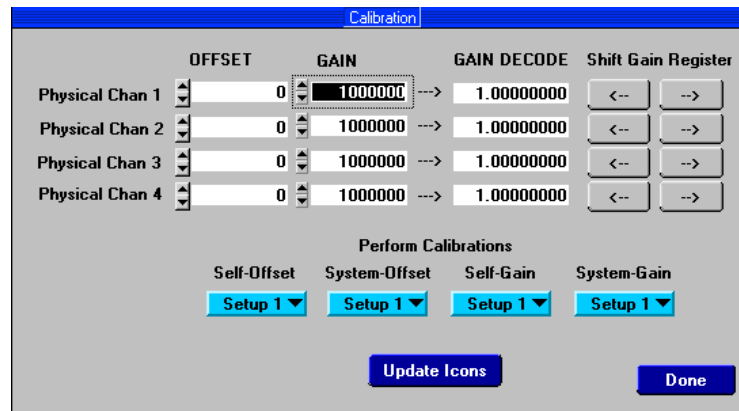

**Figure 6. CDB5534U Channel Setup Register Window**
**Channel Setup Register Window:** In the Channel Setup Register Window (Figure 6), each of the four CSRs can be decoded and modified. The blue box at the top of the window allows the user to switch between CSRs. Each 32-bit CSR contains two 16-bit “Setups” which are decoded in the two boxes below the hexadecimal value. The currently displayed CSR can be modified by either typing a value directly in the Hexadecimal: box or by changing the decoded values in the individual Setup boxes.